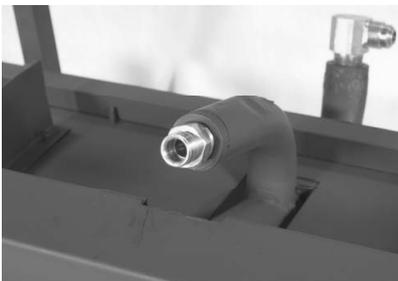

Figure 6
2. Using an adjustable wrench, and turning in a counter-clockwise direction, remove the ember burner gas feed plug. See Figure 6.